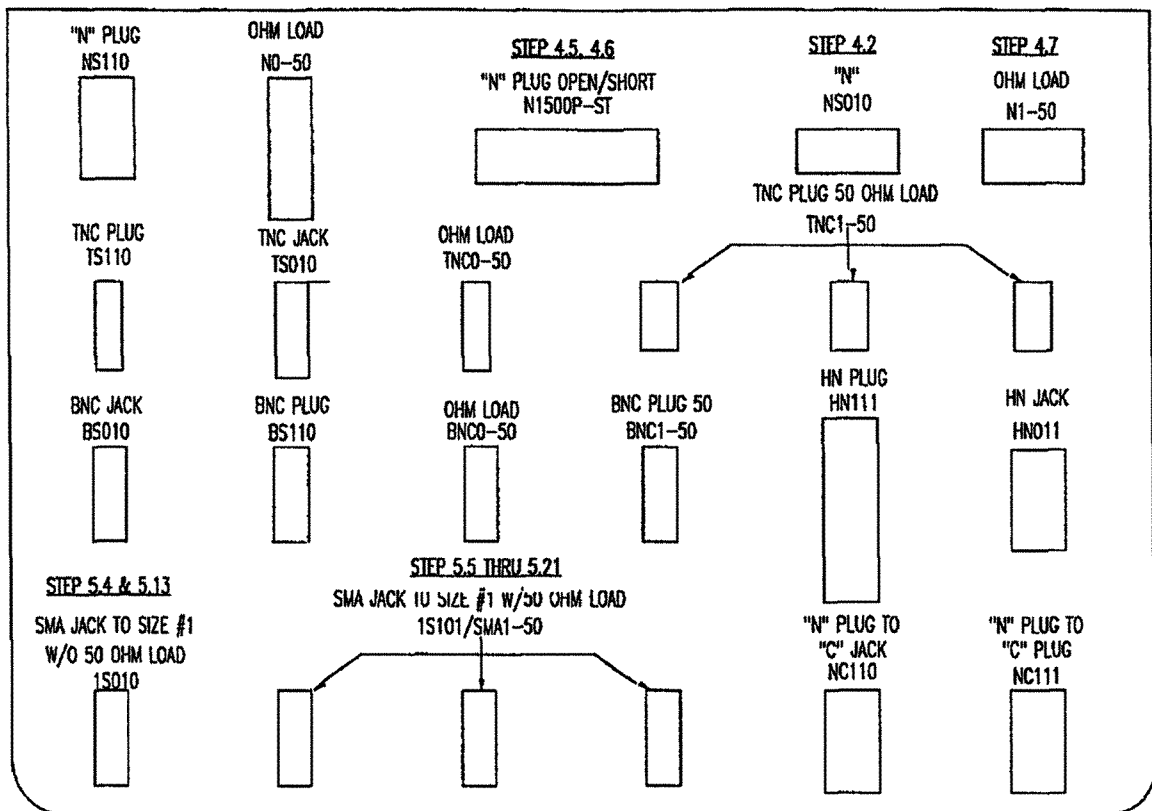
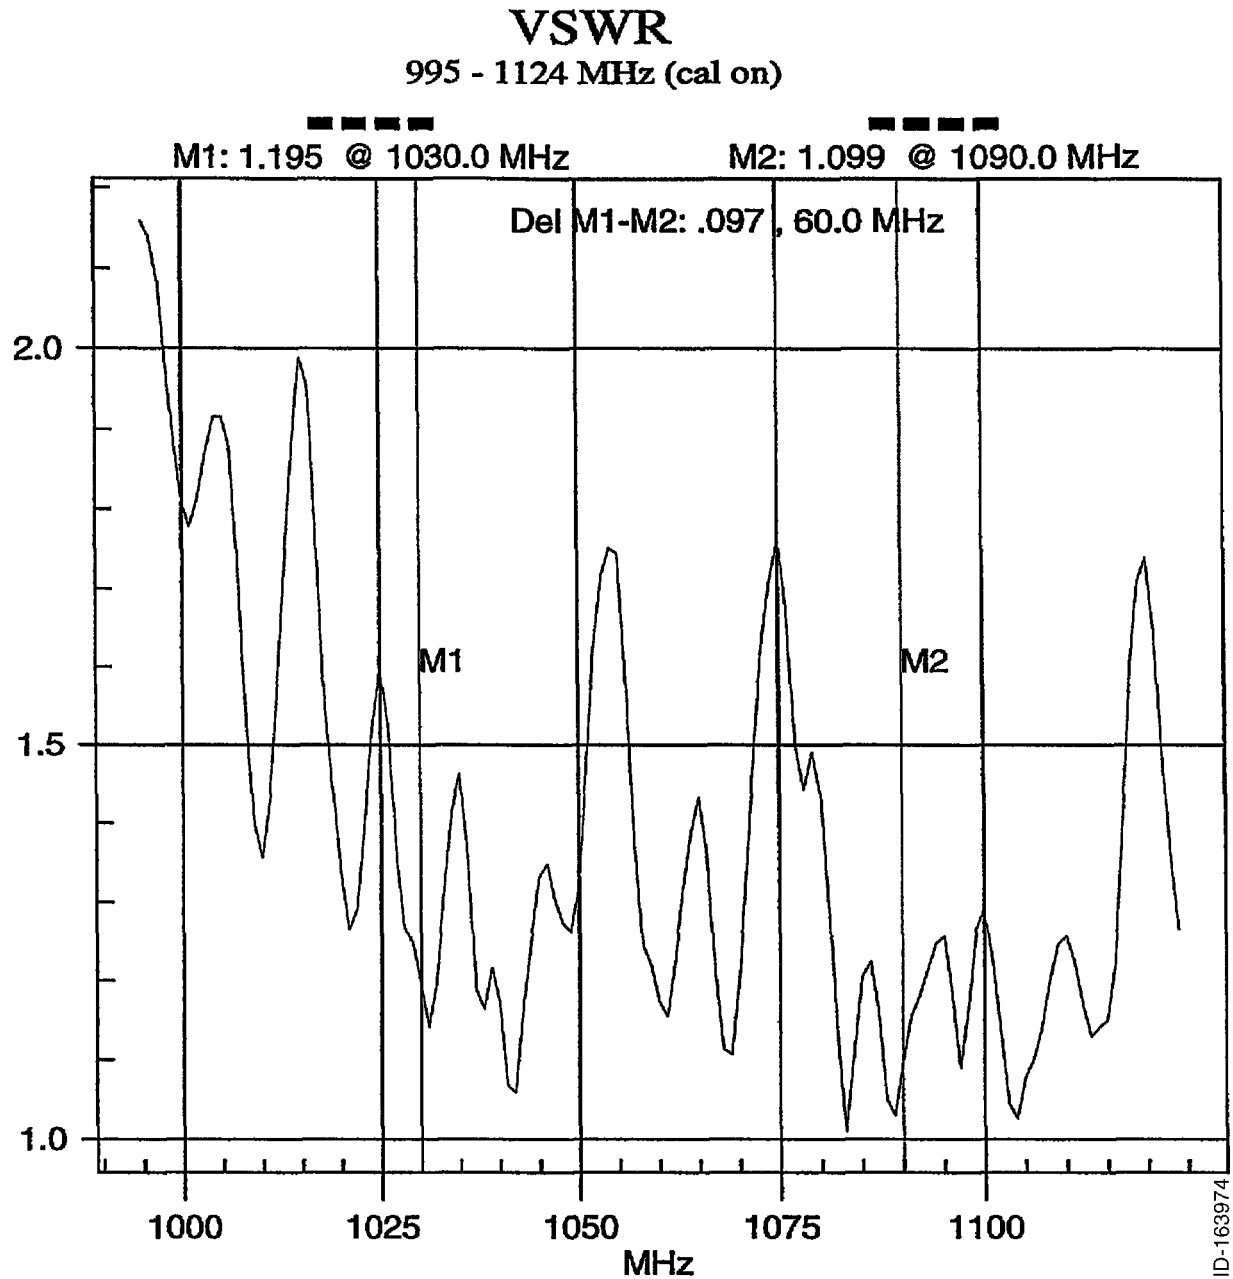

Figure 1. RF Trouble Shoot Adapter Kit Layout
Figure 3. Typical Antenna Cable Run VSWR Display
- (2) Select the SMA jack to "N" Jack adapter (part number NS010, see Figure 1) from the hard case and connect the SMA plug end of the adapter cable.
- (5) Follow the open instructions presented in the message area of the screen, "Connect **OPEN**, press **ENTER**." The Open "N" connector is the half marked open on the "N" Plug-Open/Short adapter (part number N1500P-ST see Figure 1).
- (6) Follow the instructions presented in the message area of the screen "Connect **SHORT**, press **ENTER**." The Short "N" connector is the half marked short on the "N" Plug Open/Short adapter (part number N1500P-ST).
- (7) Follow the instructions presented in the message area of the screen, "Connect **LOAD**, press **ENTER**." The "N" plug 50 ohm load adapter is (part number N1-50 see figure 1).
- (8) The calibration is complete. The SWR Value should read M1 = 1.00 at 1030 MHz and M2 = 1.00 at 1090 MHz. If either value is greater than 1.00 then repeat all of step 4.
- (4) Remove the SMA jack to "N" jack adapter (P/N NS010) from the end of adapter cable (P/N 965RFTS-201) and connect the SMA jack to Size #1 adapter (P/N 1S010, see Figure 1).
- (5) Insert the Size #1 adapter into LTP J1. To improve the accuracy of the SWR readings, insert the Size #1 50 ohm load (P/N 1S101/SMA1-50, see Figure 1) into LTP J2, J3, and J4. Press **AUTO SCALE** on the keyboard and record the SWR values at marker frequencies 1030 MHz and 1090 Mhz (see Figure 3).
NOTE: The display will look similar to the VSWR plot in Figure 3. A good antenna cable run will display the lowest VSWR reading at the system's operating frequency. The VSWR plot was generated in the software tools.
- (6) Insert the Size #1 adapter into LTP J2. Insert the Size #1 50 ohm loads into LTP J1, J3, and J4. Press **AUTO SCALE** and record the SWR values at marker frequencies 1030 MHz and 1090 MHz.
- (7) Insert the Size #1 adapter into LTP J3. Insert the Size #1 50 ohm loads into LTP J1, J2, and J4. Press **AUTO SCALE** and record the SWR values at marker frequencies 1030 MHz and 1090 MHz.
- (8) Insert the Size #1 adapter into LTP J4. Insert the Size #1 50 ohm loads into LTP J1, J2, and J3. Press **AUTO SCALE** and record the SWR values at marker frequencies 1030 MHz and 1090 MHz.
- (9) Insert the Size #1 adapter into LMP J1. Insert the Size #1 50 ohm loads into LMP J2, J3, and J4. Press **AUTO SCALE** and record the SWR values at marker frequencies 1030 MHz and 1090 MHz.
- (10) Insert the Size #1 adapter into LMP J2. Insert the Size #1 50 ohm loads into LMP J1, J3, and J4. Press **AUTO SCALE** and record the SWR values at marker frequencies 1030 MHz and 1090 MHz.
- (11) Insert the Size #1 adapter into LMP J3. Insert the Size #1 50 ohm loads into LMP J1, J2, and J4. Press **AUTO SCALE** and record the SWR values at marker frequencies 1030 MHz and 1090 MHz.
- (12) Insert the Size #1 adapter into LMP J4. Insert the Size #1 50 ohm loads into LMP J1, J2, and J3. Press **AUTO SCALE** and record the SWR values at marker frequencies 1030 MHz and 1090 MHz.
- (13) Remove the SMA jack to "N" jack adapter (P/N NS010) from the end of adapter cable (P/N 965RFTS-201) and connect the SMA jack to Size #1 adapter (P/N 1S010, see Figure 1).
- (14) Insert the Size #1 adapter into A1 J1 UPR. To improve the accuracy of the SWR readings, insert the Size #1 50 ohm load (P/N 1S10I/SMA 1-50, see Figure 1) into B1 J2 UPR, C1 J3 UPR, and D1 J4 UPR. Press **AUTO SCALE** on the keyboard, and record the SWR values at marker frequencies 1030 MHz and 1090 MHz.
- (15) Insert the Size #1 adapter into B1 J2 UPR. Insert the Size #1 50 ohm loads into A1 J1 UPR, C1 J3 UPR and D1 J4 UPR. Press **AUTO SCALE** and record the SWR values at marker frequencies 1030 MHz and 1090 MHz.
- (16) Insert the Size #1 adapter into C1 J3 UPR. Insert the Size #1 50 ohm loads into A1 J1 UPR, B1 J2 UPR and D1 J4 UPR. Press **AUTO SCALE** and record the SWR values at marker frequencies 1030 MHz and 1090 MHz.